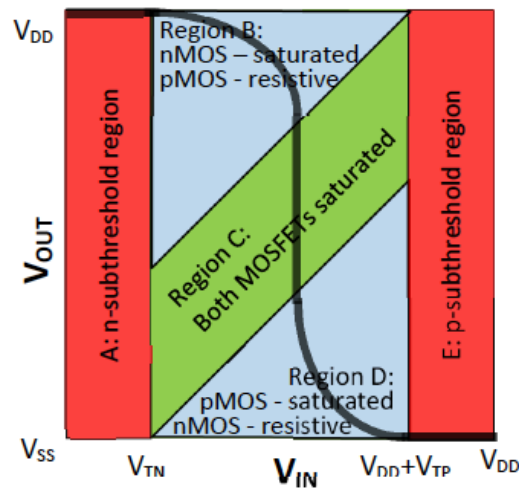

Figure 5.3: The CMOS inverter voltage transfer curve (VTC) with regions marked.
In Figure 5.1 you see the graphs of  $I_{DS}$  vs  $V_{OUT}$ , for the nMOS and pMOS FETs in a CMOS inverter. Match the three nMOS characteristics (a) through (c), shown to the left in Figure 5.1. with the pMOS characteristics, (d) through (f) that corresponds the same input voltage. Then mark the corresponding bias points in the three voltage transfer curves (g) through (i) to the right. For more details on the red, blue, and green VTC diagrams refer to Figure 5.3.
- In the diagram of CMOS inverter regions shown in Figure 5.3 mark each of these three bias points with B, C, or D, depending on the region of operation in the  $V_{OUT}$  vs  $V_{IN}$  graph to which they belong.
- Add a secondary axis representing the “short-circuit” current through the inverter as shown in Figure 5.3. Sketch the “short-circuit” current through the inverter vs.  $V_{IN}$  based on your knowledge about the current through the current-limiting MOSFET.